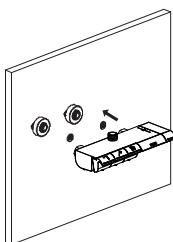

Figure 1
- d) Screw the decorative covers on the wall (Figure 1).